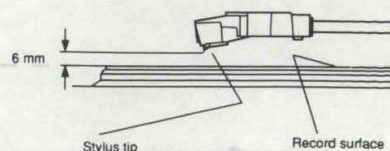

Fig.3
■ Tonearm Elevator Height Adjustment (Fig. 3, Fig. 4)